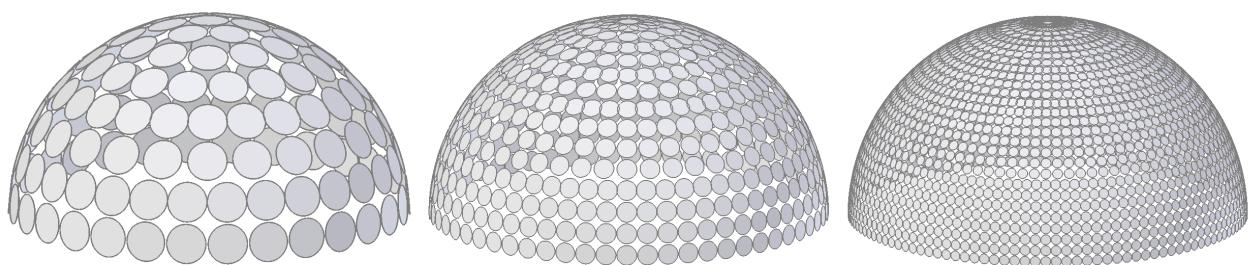

Figure 22: Sky View Patches (Tregenza, Reinhart 577, Reinhart 2305)
- Sky patches - this controls the resolution of the sky patches for the view factor analysis (figure 22). The more sky patches the longer the simulation time and more refined the results.